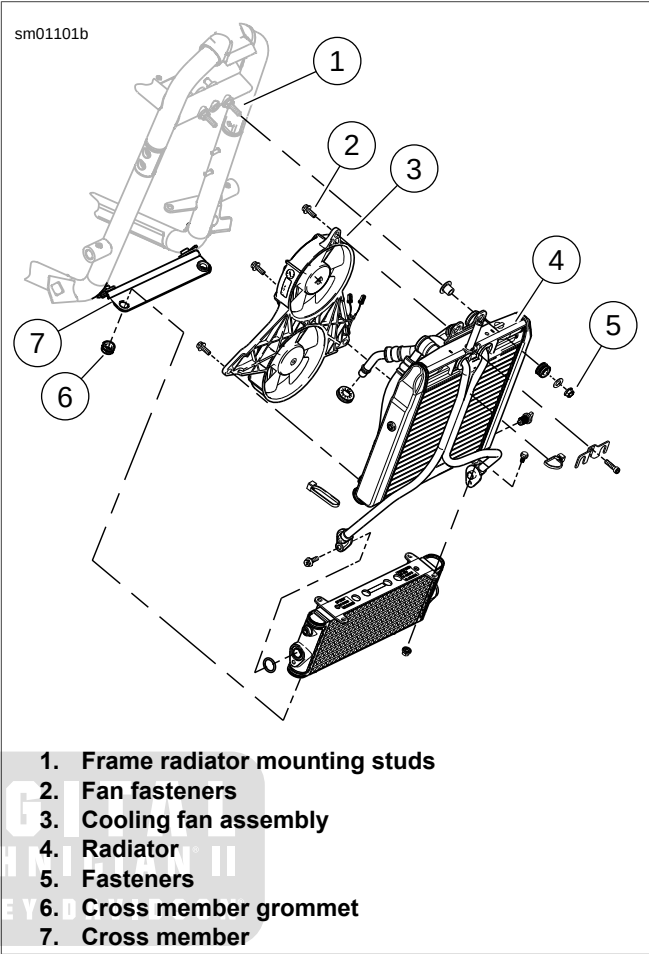
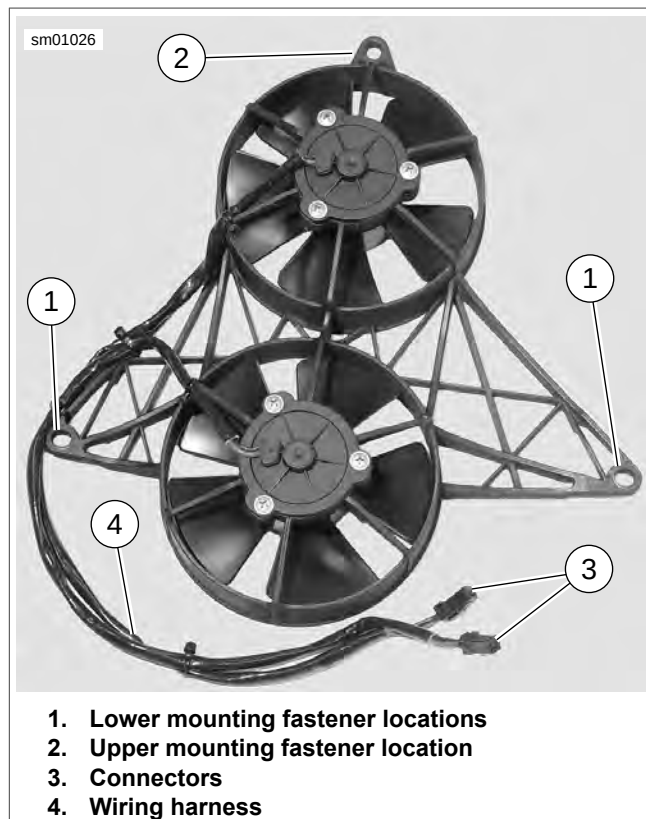

Figure 7-46. Radiator Mounting (typical)
Figure 7-47. Cooling Fan Assembly
- 8. See Figure 7-46. Remove front cross member (7).
- 9. Loosen upper fasteners (5).
- 10. See Figure 7-47. Disconnect fan assembly connectors (3) [97B] and [97T].
- 1. See Figure 7-47. Install cooling fan assembly with fan wiring harness to left side of radiator.
- 2. See Figure 7-46. Thread in and tighten fan fasteners to 5-7 Nm (44-62 in-lbs).
- 4. See Figure 7-47. Tighten upper cooling fan fastener to 19-27 Nm (14.0-19.9 ft-lbs).